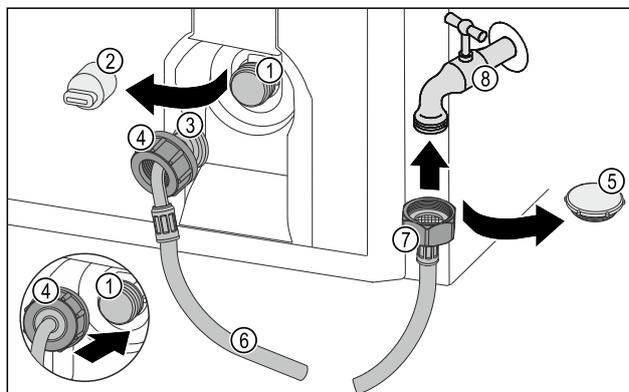

Fig. 63
- ▶ Remove the closure cap Fig. 63 (5).
- ▶ Place the straight end of the hose Fig. 63 (7) on the tap Fig. 63 (8).
- ▶ Tighten the nut at the straight end of the hose Fig. 63 (7) in a clockwise direction.